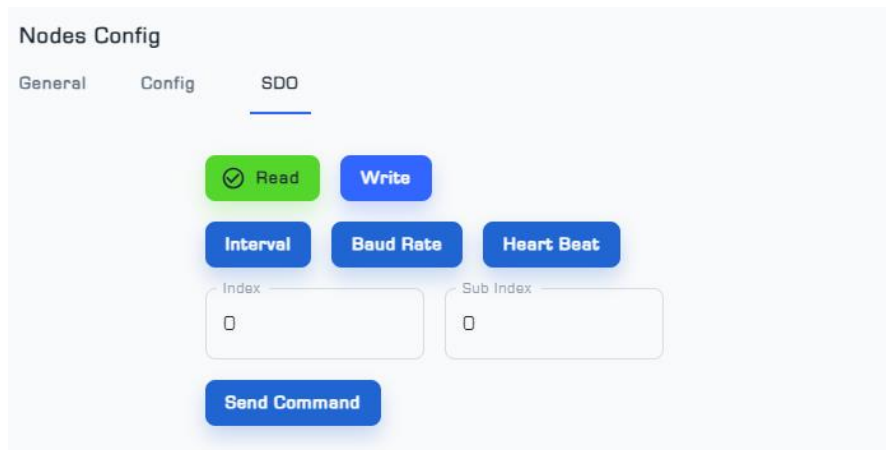

Figure 6: SDO Menu from Nodes Config page
- The SDO menu is used to change the parameters of Interval ¹, Baud Rate ², and Heartbeat³ (Figure 6).